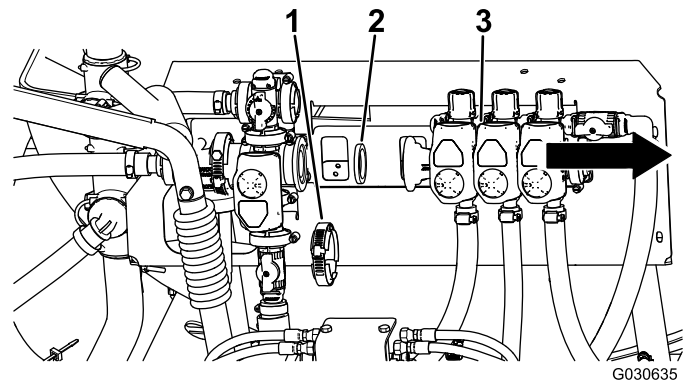

Figure 5
- Carefully move the boom-valve assembly away from the KZ valve (Figure 5).
- Remove the existing gasket in the valve body (Figure 5).